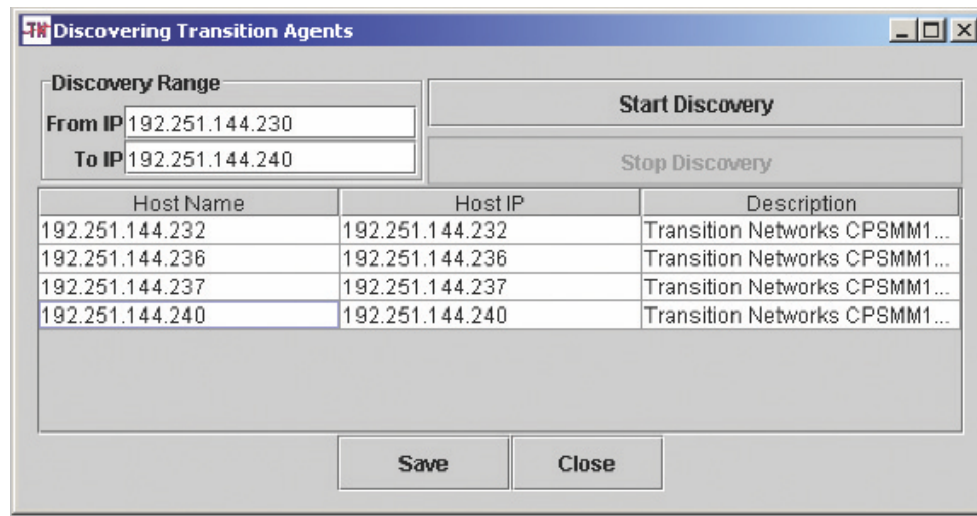

Figure 11: Discovering Transition Agents Dialog Box
1.	Select “Discover Transition Agents” from the “Tools” pull-down menu and a Discover Transition Agents dialog box will appear. See Figure 11.
2.	Enter a range of IP addresses in the [From IP] and the [To IP] text fields, as shown in Figure 11.
3.	Click the START DISCOVERY button and the application will list the available IP addresses in that range, as shown in Figure 11. (To stop the search at any time, click the STOP DISCOVERY button to stop the search.)